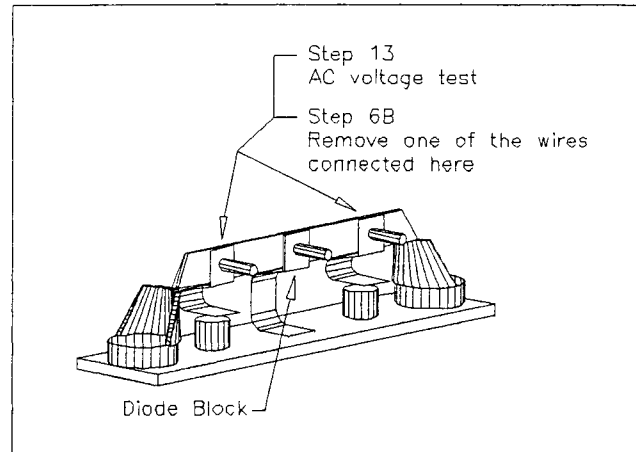

Figure 3-18
- b) Remove one lead from one diode (see Figure 3-18).
13. Measure AC voltage at diodes (see figure 3-18).